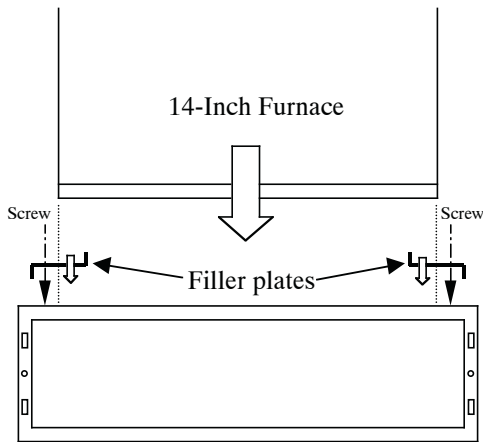

Fig. 16 - 14-in. Furnace with Filler Plates, Centered
- a. Furnace centered on filter cabinet (optional). Install a filler plate on both sides of the filter cabinet. (See Fig. 16.)